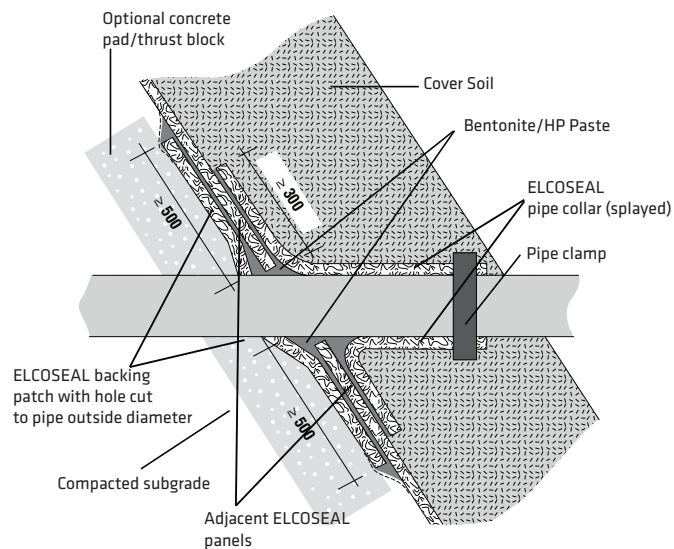

Figure 13 Typical pipe penetration detail
- Penetrations such as pipe ducts are typically carried out according to Figure 13;